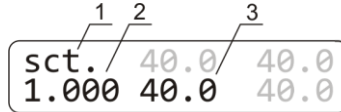

Figure 2. Display in calibration mode: 1. Calibration mode indicator; 2. Calibration coefficient; 3. Temperature with current coefficient
- 6.2. To change the calibration coefficient, hold the **TIME RUN/STOP** key pressed for more than 8 s to activate calibration mode. The calibration coefficient appears on the display (fig. 2).
Note. Values marked in grey on figures 2 and 3 are not used in calibration and are meant for service engineers.
- 6.3. **Restoring factory settings.** Set 1.000 value using the ▲ and ▼ T, °C keys as shown on fig. 2/1 to restore the factory settings. Press the **RPM RUN/STOP** key once to save the changes and exit the calibration mode.
- 6.4.5. Hold the **TIME RUN/STOP** key pressed for more than 8 s to activate calibration mode (fig. 2).